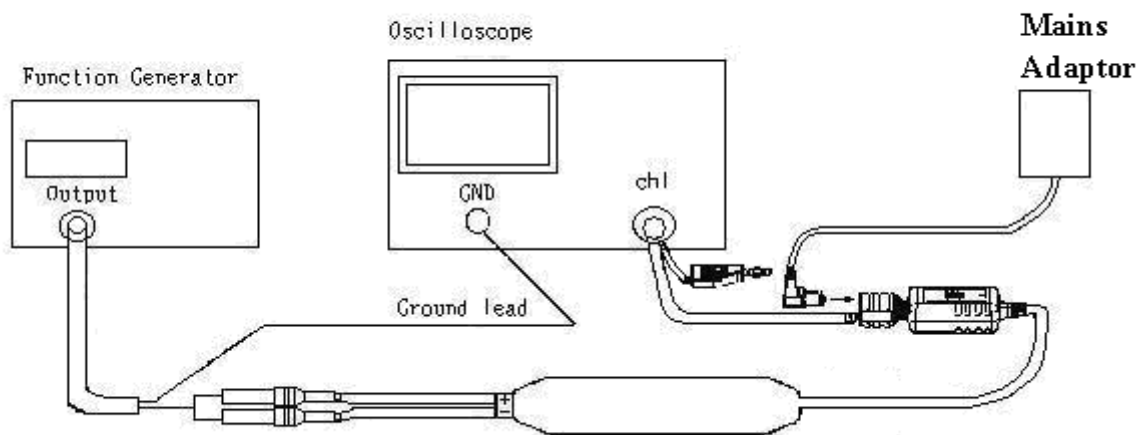

Fig. 7
- F-1. Connect the probe as shown in Fig.7.